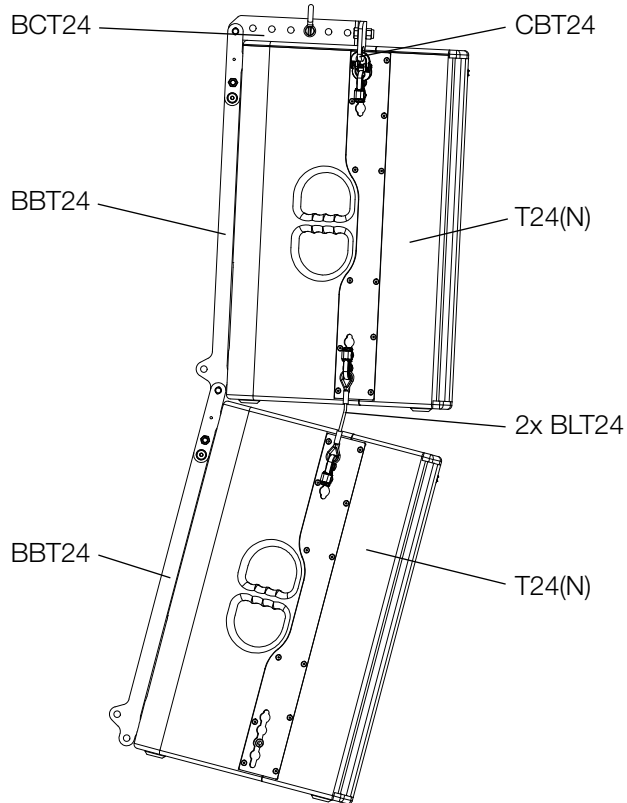

Figure 4.11 - Standard variant
The standard variant has established itself in which two T24(N) loudspeakers are used with two BBT24 brackets, a CBT24 cradle bar for flying and a BCT24 rigging adapter. (See figure 4.11)